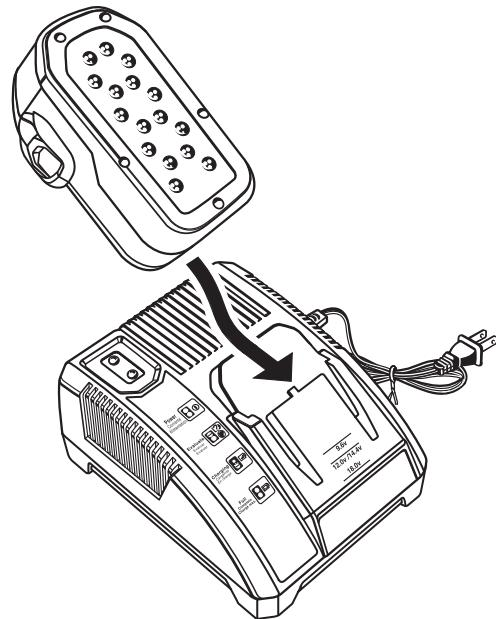

Fig. 4
- Attach the battery pack to the charger by aligning the raised ribs on the battery pack with the grooves in the charger, then slide the battery pack onto the charger. *See Figure 4.*